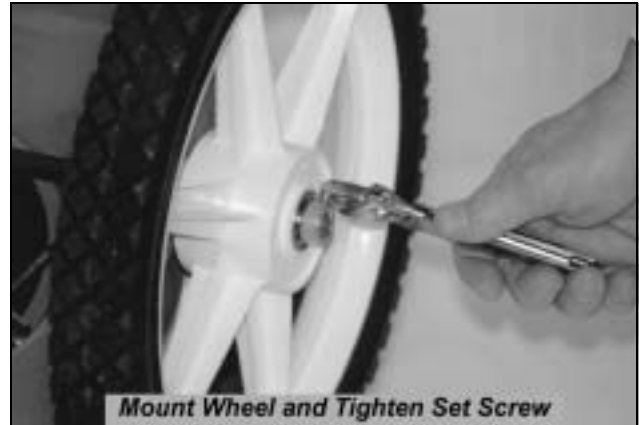

Figure 6
5. Mount the other wheel with the open portion of the hub facing in toward the frame. Mount the retaining ring so it is flush with the axle and tighten the set screw (*Figure 6*).